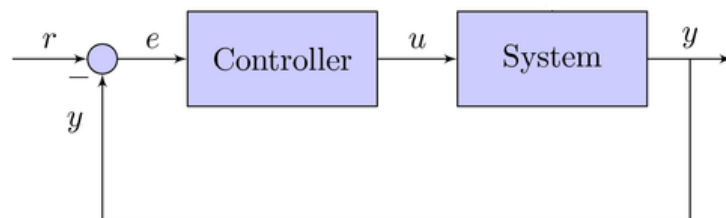

Figure 1: Feedback control system
- b. By using simulation in MATLAB, describe how any of these controllers listed below when implemented as shown in the Figure 1 below are able to influence the system.